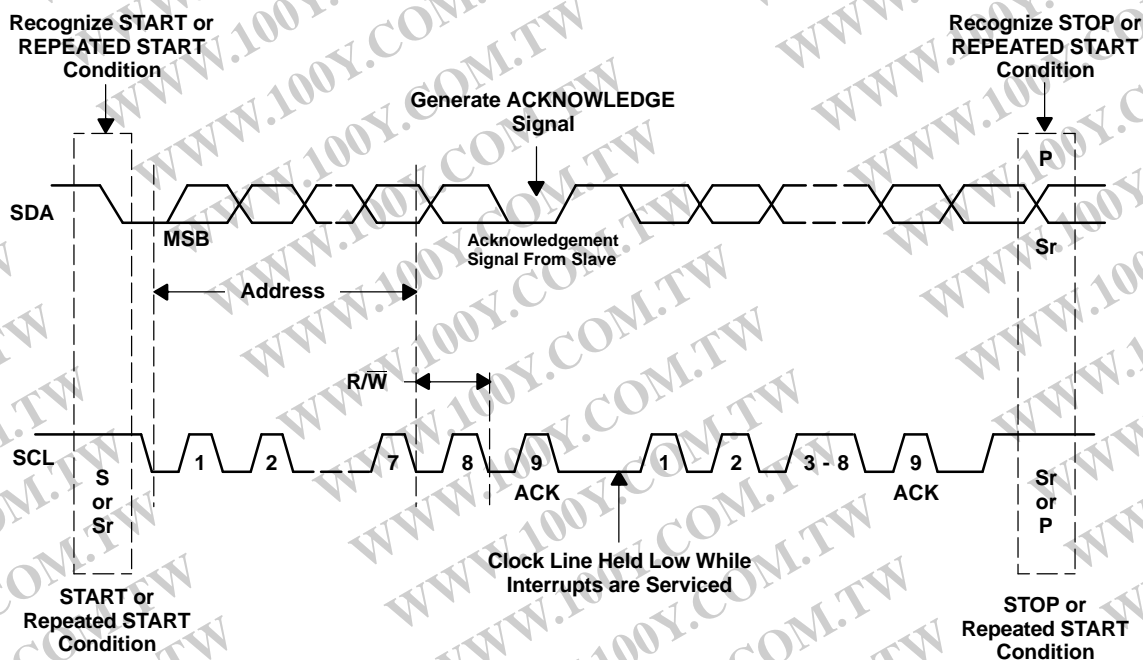

Figure 44. Bus Protocol
- When all data bits have been written, a Stop condition is established (see Figure 44). In writing to the DAC7571, the master must pull the SDA line high during the tenth clock pulse to establish a Stop condition.